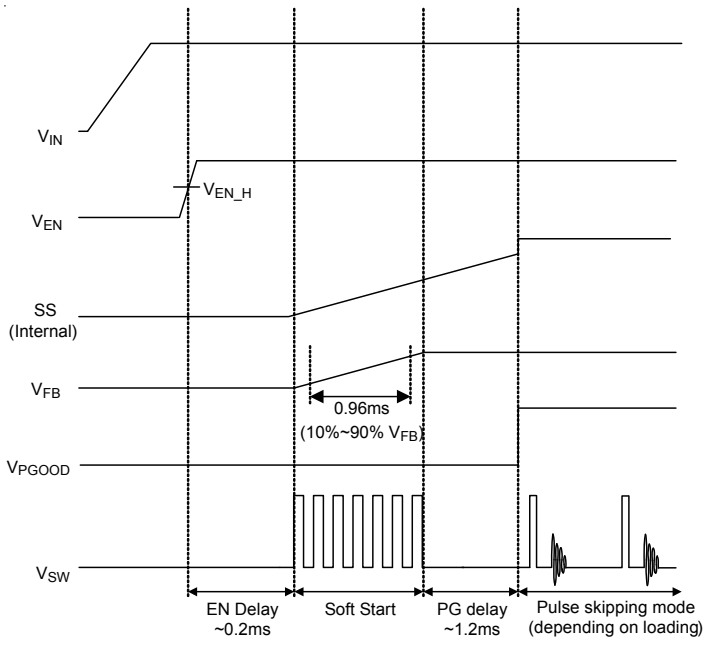

Figure 1. Power Up Sequence which is Following Internal Soft-Start
The enable input (EN) has a logic-low level of 0.74V. When  $V_{EN}$  is below this level the IC enters shutdown mode and supply current drops to less than 1 $\mu$ A. When  $V_{EN}$  exceeds its logic-high level of 0.92V the IC is fully operational. When  $V_{EN}$  exceeds its logic-high level, the pre-regulator turns on first. The power up sequence from EN logic high to PGOOD go high is shown as Figure 1.